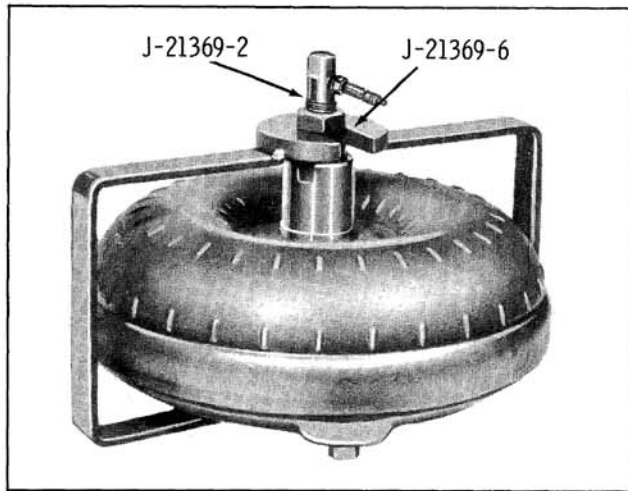

Fig. 6-547 Installing Tool J-21369
- a. Install available Tool J-21369 and tighten. (Fig. 6-547)